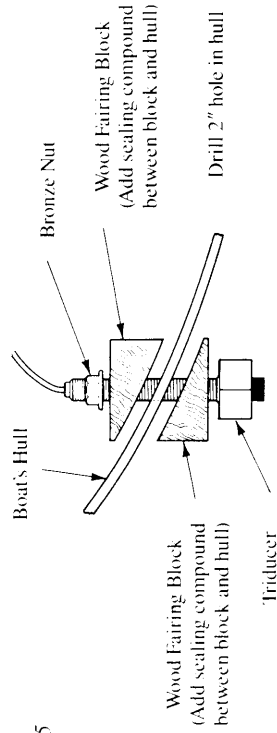

Figure 5
- 1) If the deadrise angle at the mounting point of the hull exceeds 10 degrees, a fairing block is strongly recommended. A fairing block is typically made of teak or mahogany wood and should be used between the transducer and hull (both inside and outside) to insure that the transducer's face is parallel to the water's surface. Make the fairing block as smooth as possible and not bigger than the transducer's face to minimize possible turbulence (*Figure 5*).